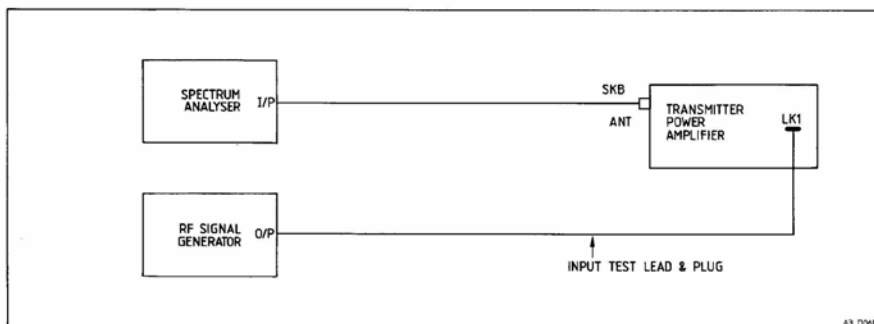

Fig.2 Antenna Filter Test Circuit - Direct Sweep
6. Connect the test equipment as shown in Fig.2 (for A,B and E Bands only) and sweep the filter directly. The attenuation at 136MHz (E Band), 246MHz (A and B Bands), should be greater than 55dB.